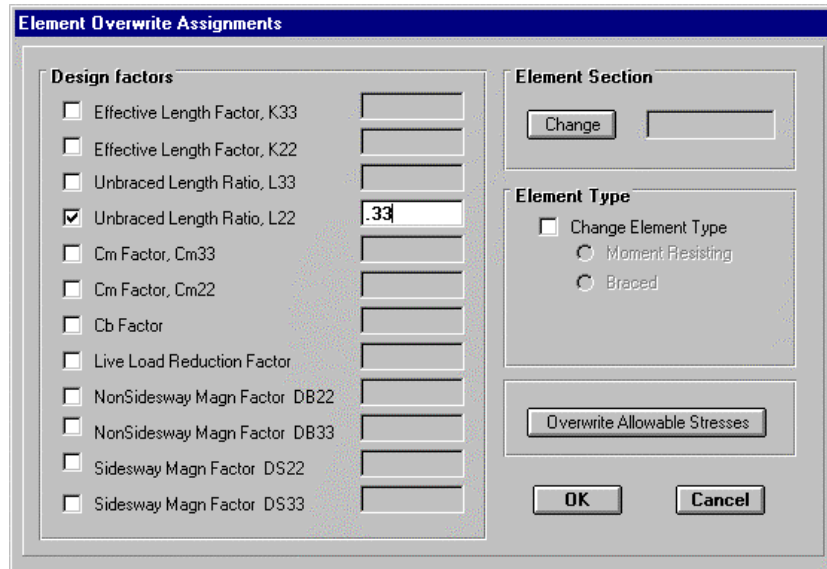

Figure 4-8 Element Overwrite Assignments for Beams
- In the **Element Overwrite Assignments** form select the **Unbraced Length Ratio, L22** check box and set the value to 0.33. This will brace that member at 1/3 rd points (against buckling in the local 1-2 plane) instead of the default of braced at the ends only. (See Figure 4-8)